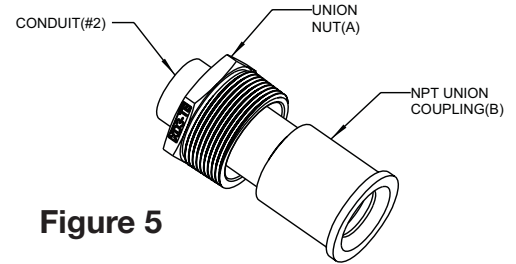

Figure 5
4. Then thread NPT Union Coupling (B) onto conduit (#2) and hand-tighten. Finish tightening with a pipe wrench (wrench-tight). See Fig. 5.